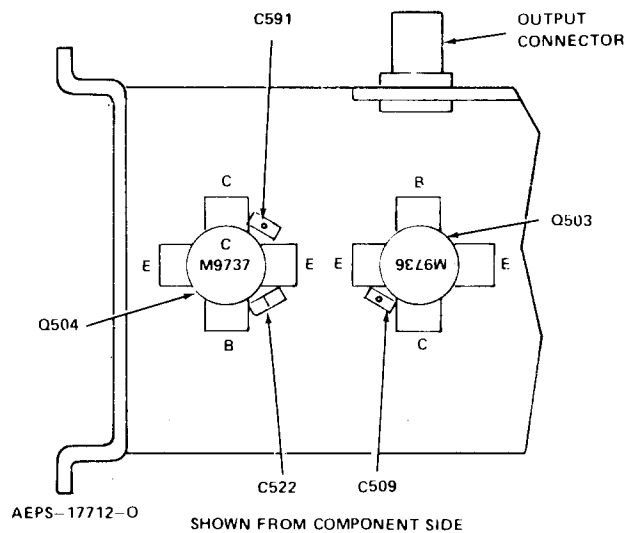

Figure 16.
The following is a brief description of the transistor removal and replacement technique that should be used for the low-level amplifier. For more detailed information and illustrations, refer to the power amplifier transistor removal and replacement procedure, see Figure 16.
Step 2. Place the transistor on the microstrip. Position the device as shown in Figure 16.
Step 5. Install the chip capacitors between the transistor leads (See Figure 16). Place each chip capacitor as close to the transistor as possible. Reflow type soldering technique MUST be